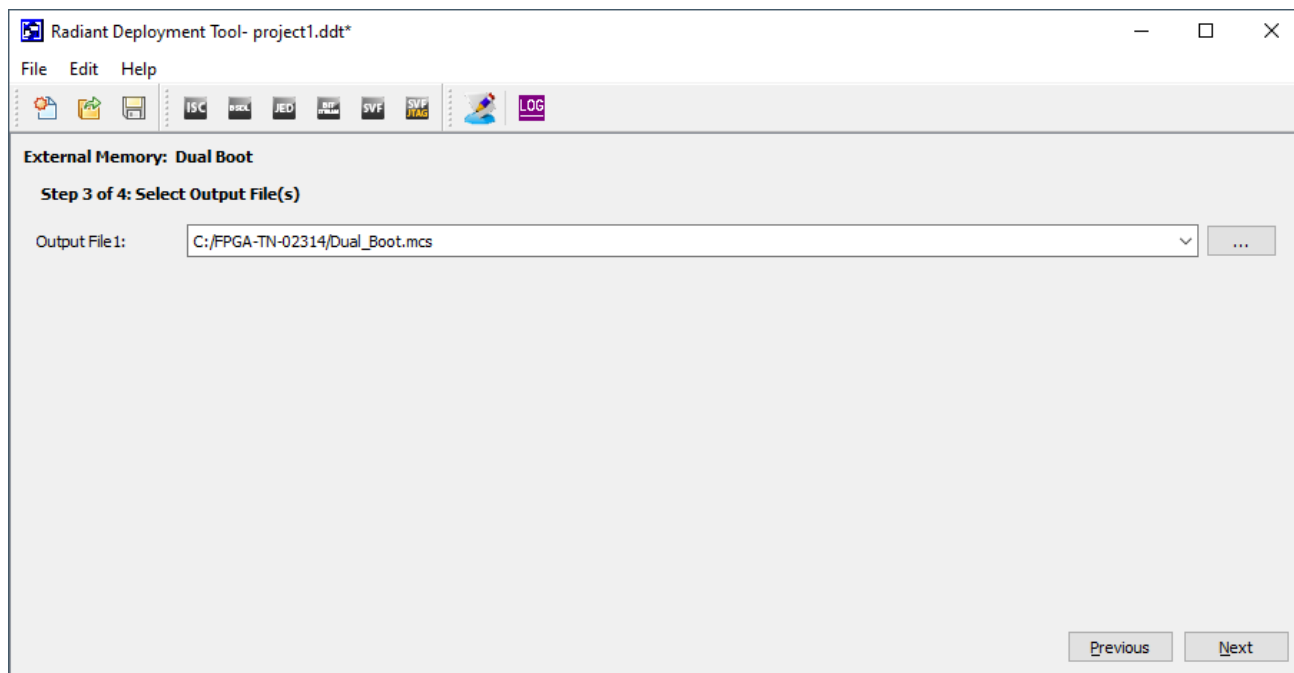

Figure 4.4. Select Output File Window
Step 3 of 4: Select Output File(s) window (Figure 4.4)